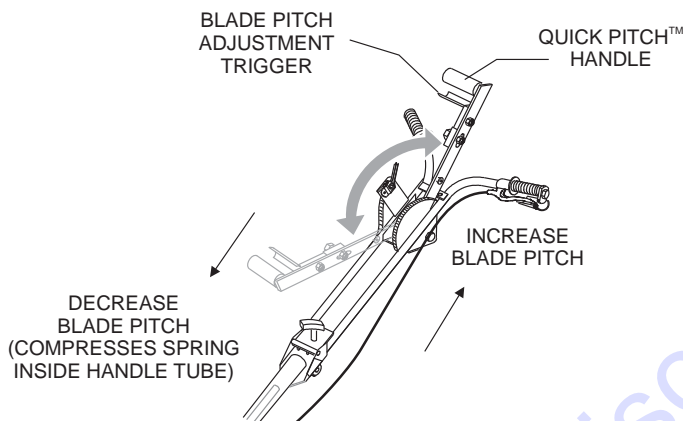

Figure 17. Quick Pitch™ Handle
1. To pitch the blades upwards using the "**Quick Pitch™ handle**", (Figure 17) simply squeeze the trigger lock and pull the handle towards the operator. Pushing the handle towards the engine will cause the blades to lay flat.